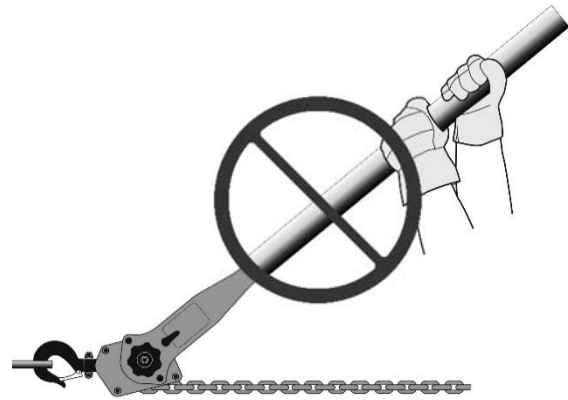

Figure 7
- Do not use an extension on the lever (Figure 7).